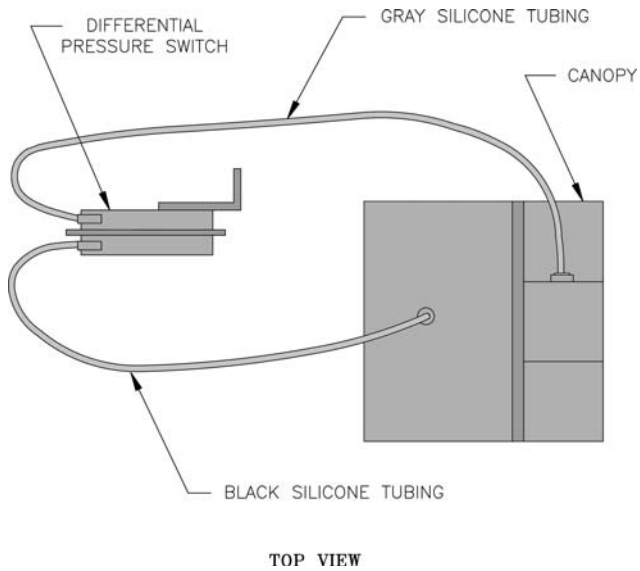

Figure 26: Silicone Tubing Assembly
10. Connect Silicone Tubing between Pressure Fittings on Canopy Assembly and Pressure Switch. See Figure 26.
4. Stop boiler, remove manometer and reconnect hoses to pressure switch. See Figure 26.